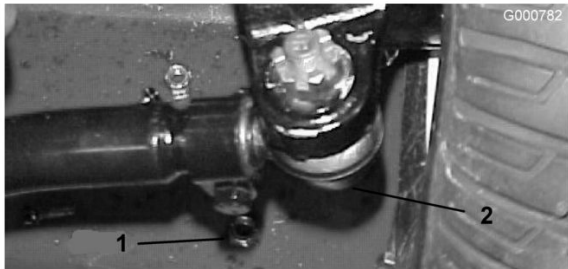

Figure 70
2. To adjust, remove the cotter pin and nut from either tie rod ball joint. Remove tie rod ball joint from axle case support (Figure 70).
3. Loosen the clamps at both ends of the tie rods (Figure 70).